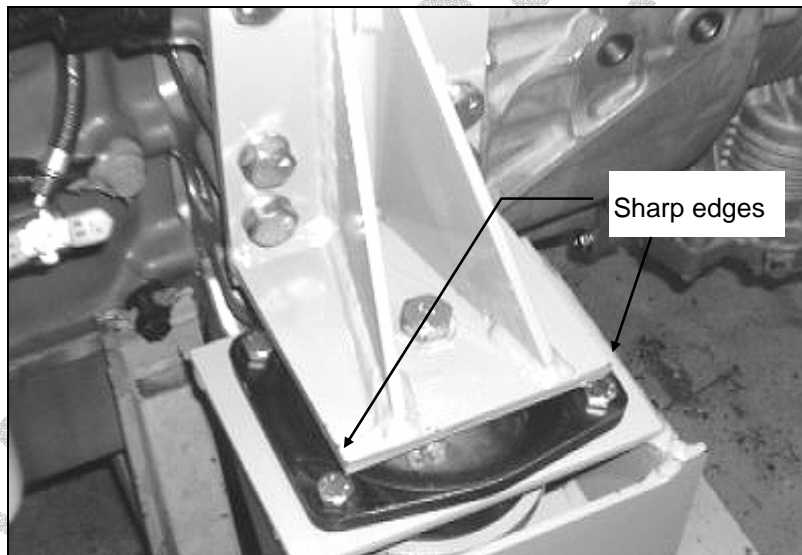

FIGURE 2
2. Inspect cable for any damages caused by friction on sharp or abrasive objects. Pay particular attention to the section of the cable which is routed close to the engine cradle leg. Figure 2 shows the particularly sharp edges of the cradle leg where abrasion could occur.